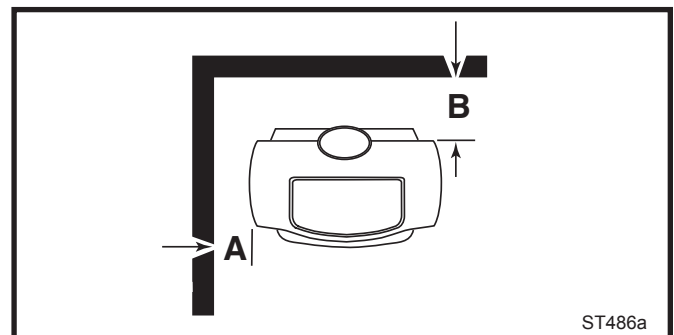

Fig. 11 Minimum clearances.
**Minimum rear clearance from combustible walls (e.g. timber framed or studded walls) 670 mm (263/8") measured from the rear edge of the stove top. (Fig. 11, B)**
**Minimum side clearance from combustible walls 470 mm (181/2") measured from the side edge of the stove top. (Fig. 11, A)**